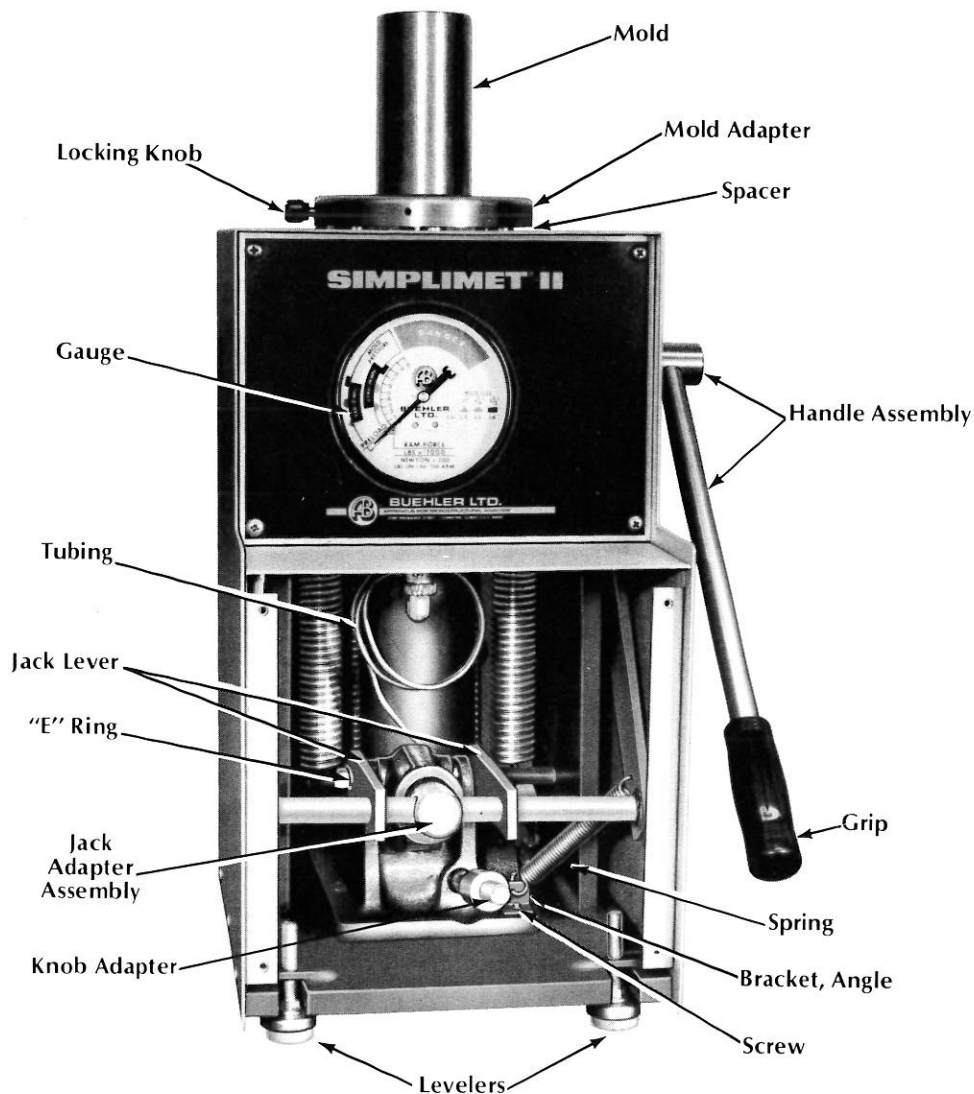

Figure 7. SIMPLIMET® II WITH FRONT PANEL REMOVED
3. Unscrew Mold Cylinder by pulling Locking Knob outward and turning Cylinder counterclockwise (Figure 7).
9. Unhook Spring from the Angle Bracket at base of Hydraulic Jack and remove Screw and Angle Bracket from base (Figure 7).
10. With a small prying tool, remove two (2) "E" Rings on shaft, holding Jack Lever Arms at center of shaft. Slide Jack Lever Arms off shaft outward towards sides of the cabinet (Figure 7).
11. Turn Press 180° and remove six (6) screws holding back cover in place and remove back cover.